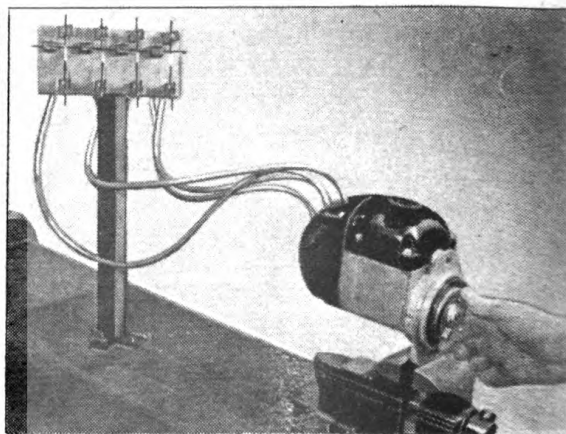

Fig. 40. Testing Magneto with Three-Point Spark Gaps Set at $\frac{3}{8}$ Inch Jumps
2. The 4 spark plug wires from the distributor cap terminals should be attached to the four 3-point spark gaps which are set at $\frac{3}{8}$ inch spark jump gaps. Fig. 40.
3. Turn the magneto by hand in the same direction as it revolves on the engine to see if there is sufficient spark to jump the $\frac{3}{8}$ inch gap at all 4 terminals. Fig. 40. Also determine whether or not the impulse latches and trips freely like a new magneto. The latter is checked by feeling only, and the operator must accustom himself to know how a correctly operating impulse feels.